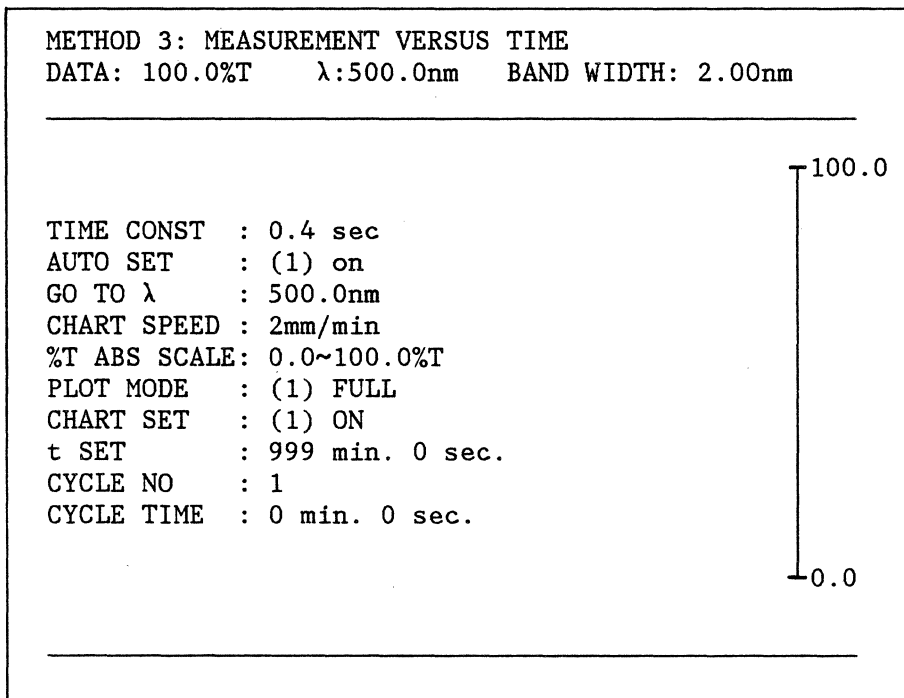

Figure 5-2. Method 3 Operating Conditions
2. If a check of the operating conditions is desired, press Display List. The parameters used to set the operating conditions will be displayed as shown in Figure 5-2.